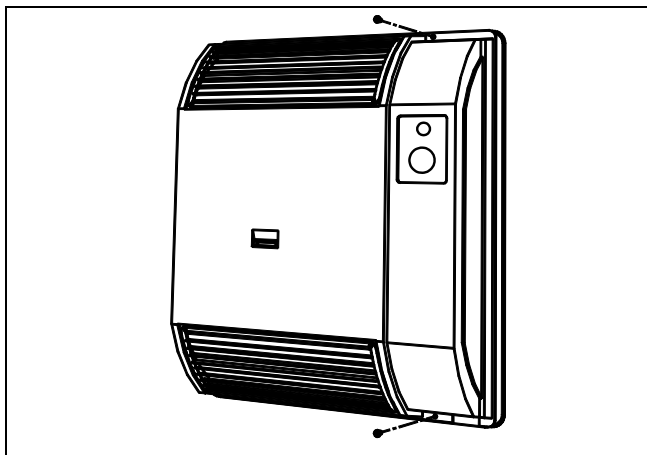

Figura 5
12. Reinstall the external casing by tightening the relevant screw (see Figura 5).